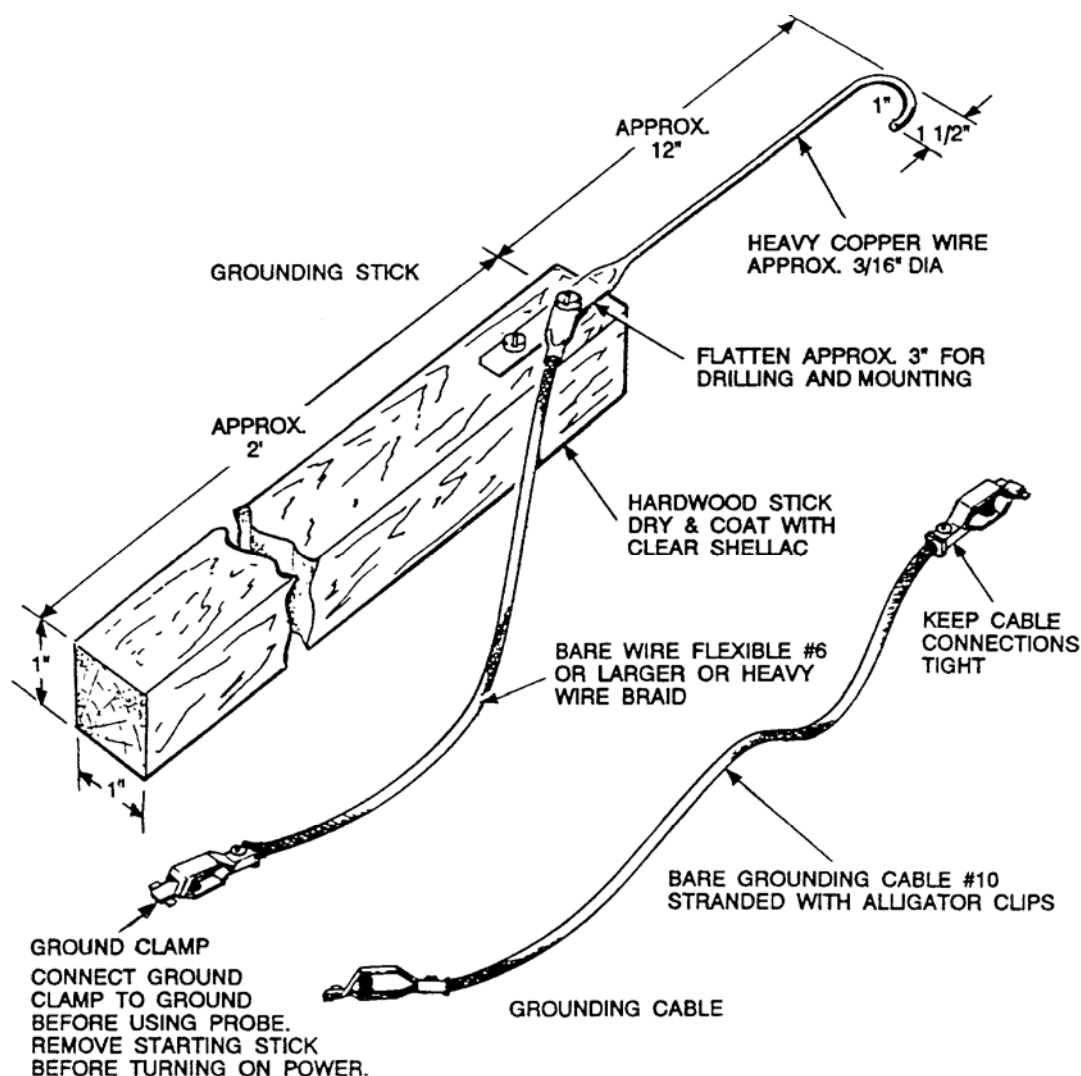

Figure T-2. Grounding Stick and Grounding Cables; Fabrication Diagram
- (1) Safety boards will be painted white with a 2-inch green border. The board title will be white lettering on a green, rectangular background. Lettering to designate position of board items will be in black on the white background.
- (2) Safety boards will be of sufficient size and conformation to adequately display the equipment without clutter.
- (3) Safety boards will be inspected monthly to insure that all items are available and in good operating condition.
- (4) Supervisors will determine safety equipment to be required pertinent to hazards in the work area. As a minimum, the following equipment will be considered:
- (e) Grounding stick; fabricated locally (Figure T-2).
- (f) Grounding cables, No. 10, stranded with clips; fabricated locally (Figure T-2).